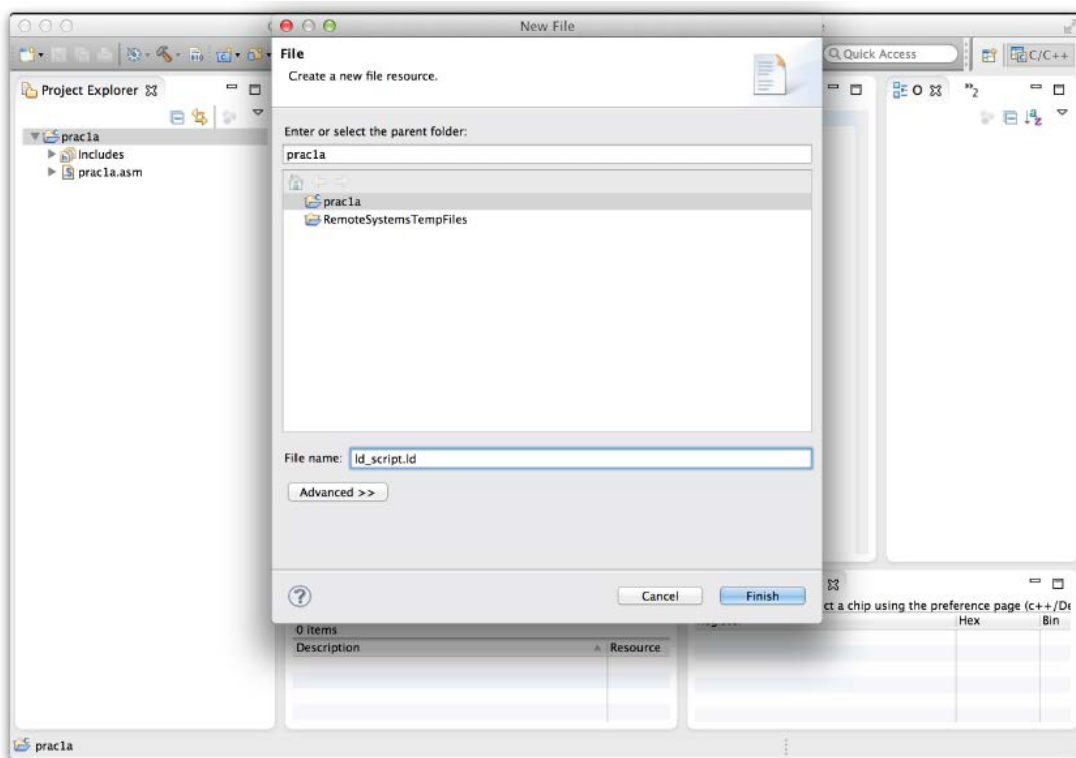

Figure 1.10 Adding a new file to the project
7. Before configuring the compilation of our project, we will add to it a file that will be used to tell the linker how to build the memory map of the final executable file. In this case we are going to see another way to add a file to the project. In the Project Explorer, select the project, click the right mouse button and select New→ File. A window like the one in Figure 1.10 will then open. Select the project and put `ld_script.ld` as the filename. Once created, open it in the editor and copy the contents of Table 1.13.